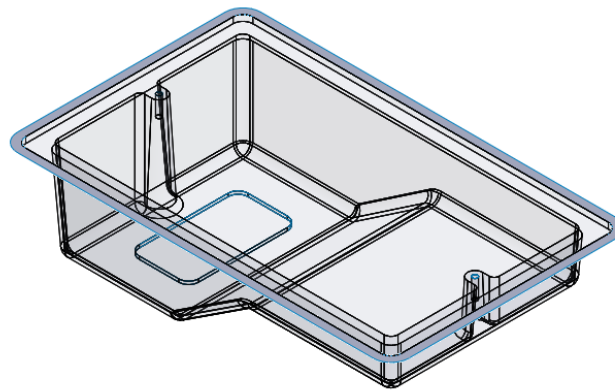

Figure 21-39 After creating the radiated surface
- Use the top-down approach to extract the core and cavity of the Plastic Cover, refer to Figures 21-39 through 21-47.
4. Using the **Radiate Surface** tool, create a radiated surface with the radiate distance of 10 mm, refer to Figure 21-39.